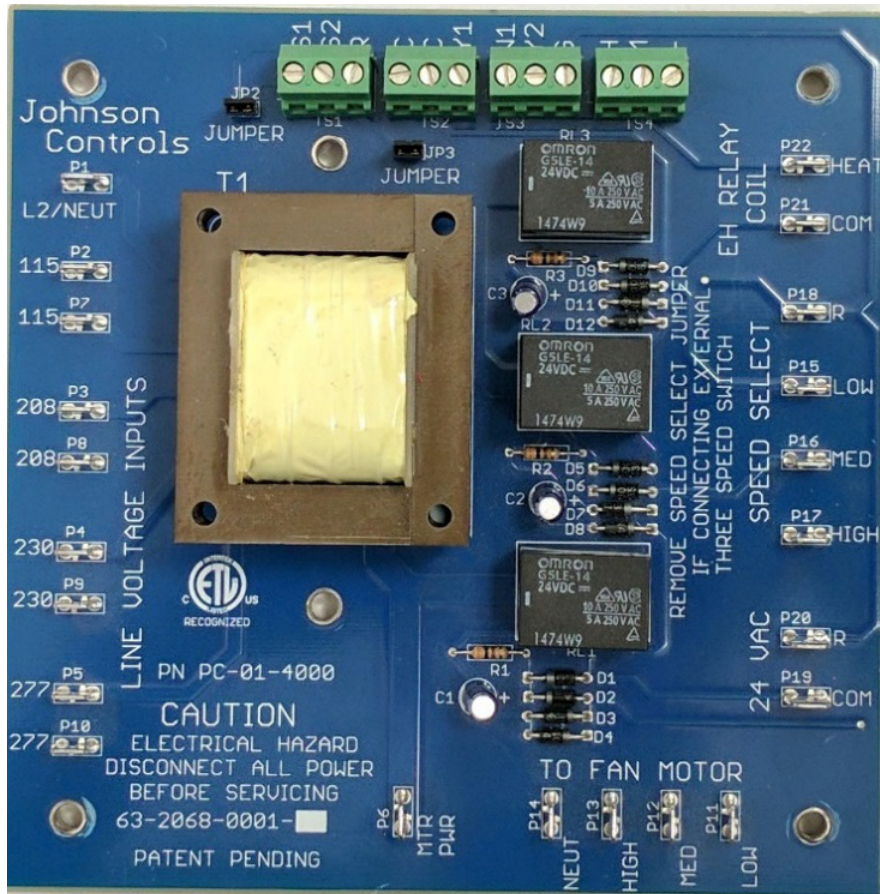

Figure 3 – Fan Control Relay Board (FCRB)
- Locate the FCRB within the control enclosure. (See Figure 3.)